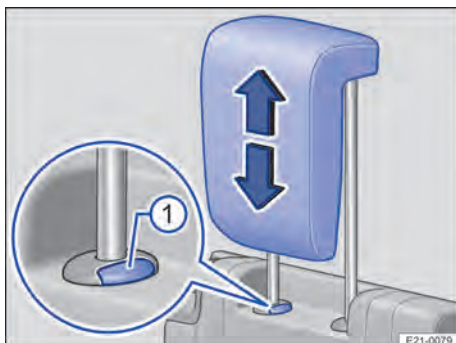

Fig. 80 Third row of seats: adjusting the head restraints.
3. To release the head restraint from the locked position, press the → Fig. 80 ① button and lower the head restraint.